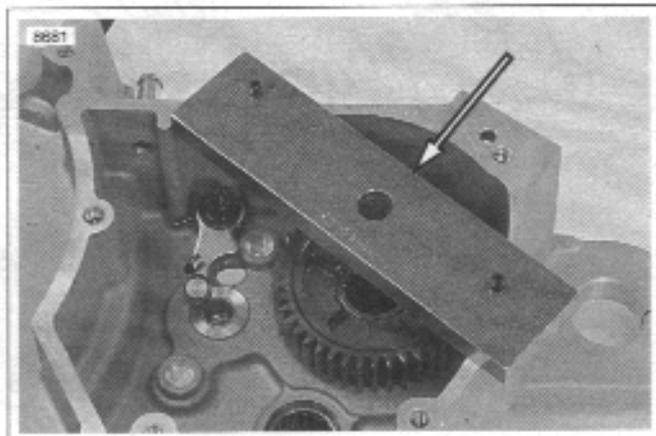

Figure 6-70. Bearing Remover Cross Plate Mounting (Part No. B-45847)
1. See Figure 6-70. Locate MAIN DRIVE GEAR REMOVER AND INSTALLER (Part No. HD-35316-A). Place cross-plate pins in appropriate holes in transmission case.